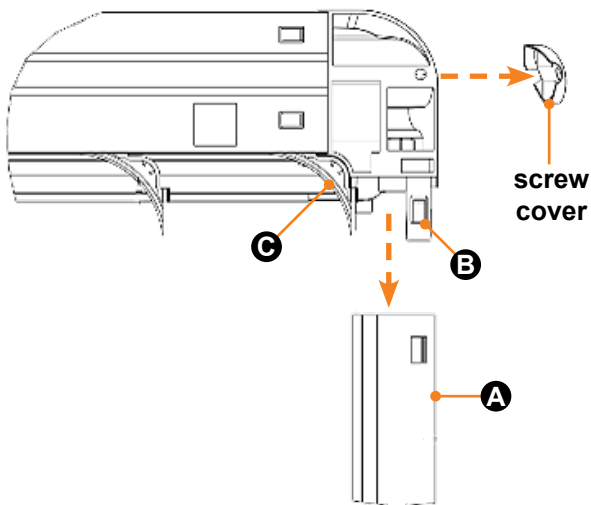

Fig.2
3. After the cassette has been reassembled, slide each side rail into the cassette (Fig.2), keeping a close watch that the two tabs and corner radius slide smoothly into the side rail. A click will be heard when the tabs have engaged.